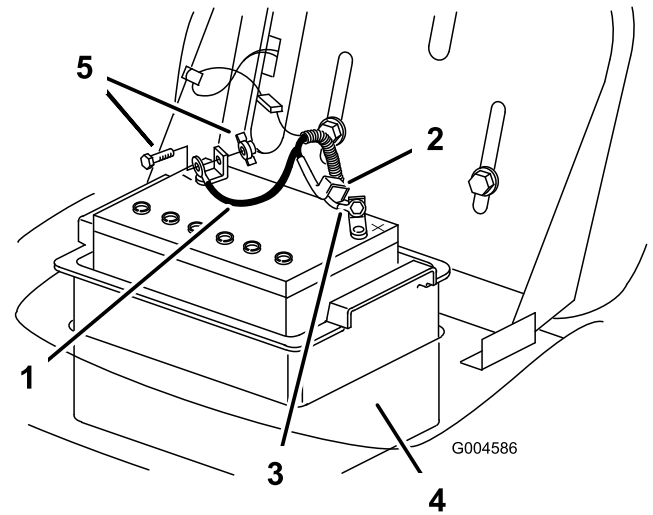

Figure 28
7. Disconnect the negative (black) ground cable from the battery post (Figure 28).
9. Disconnect the positive (red) cable from the battery post (Figure 28).
10. Remove the battery box and battery from the chassis (Figure 28).
1. Put the battery into the battery box and install it into the chassis (Figure 28).
2. Using the bolt and the wing nut, connect the positive (red) cable to the positive (+) battery post (Figure 28).
- Using the bolt and wing nut, connect the negative (black) cable to the negative (-) battery post (Figure 28).